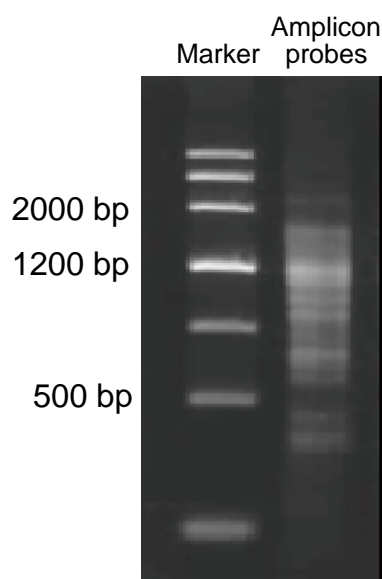

Figure 3. Schematic diagram of amplicon probes.
- 4) Use a 1% TAE agarose gel to check amplicon probes (Figure 3).